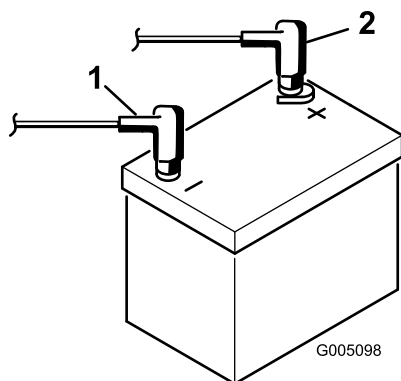

Figure 8
2. Connect the positive battery cable (red) from the starter solenoid to the positive post (+) of the battery (Figure 8). Secure it with a wrench and coat the terminal with petroleum jelly. Make sure the cable will clear the seat, in the rear-most position, which could cause wear or damage to the cable.